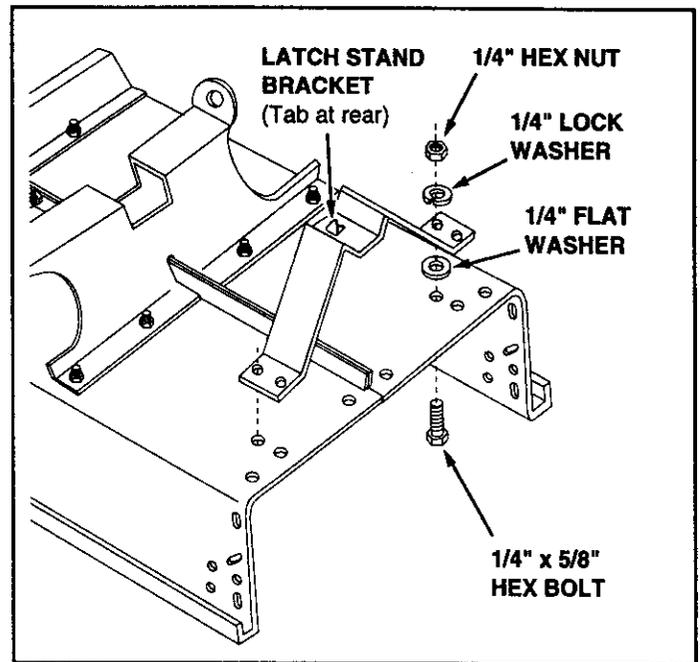

FIGURE 6
- Align the latch stand bracket so that the tab is at the rear. Fasten the bracket to the rear set of holes at the front of the cart using two 1/4" x 5/8" hex bolts, 1/4" flat washers, 1/4" lock washers, and 1/4" hex nuts. Use the 1/4" flat washers as shims between the bracket and the cart bed. **Make finger tight at this time.** See figure 6.
- **Tighten** the two bolts which were assembled to the latch stand bracket in figure 6.